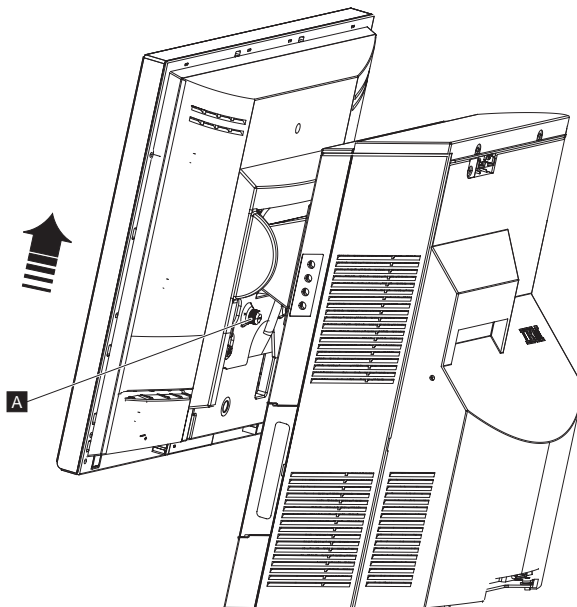

Figure 23. Removing the display tablet
3. Tilt the tablet back and loosen the two thumbscrews **A** in Figure 23 under the tablet.